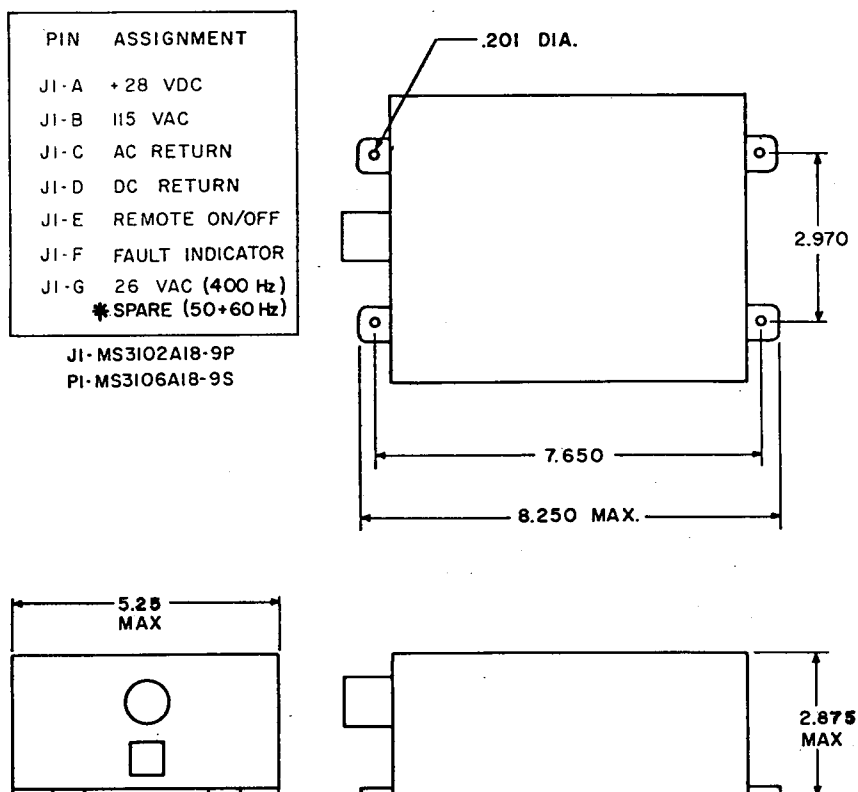

FIGURE 2
1) Physical and Mechanical Requirements - Refer to Figure 2